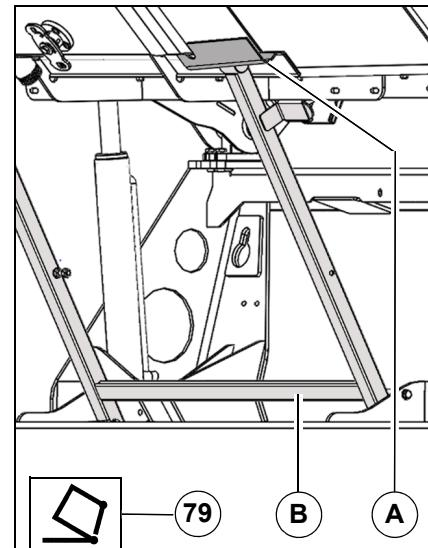

Fig. 167:
- Always bring and insert the safety strut **Fig. 167-B** of the dirt hopper into the upper position during maintenance and cleaning work under the raised dirt hopper. There is a risk of injury!
Hinge over the safety strut **Fig. 167-B**.
Lower the dirt hopper with the button **Fig. 167-79** and insert the safety strut in the recess **Fig. 167-A**.